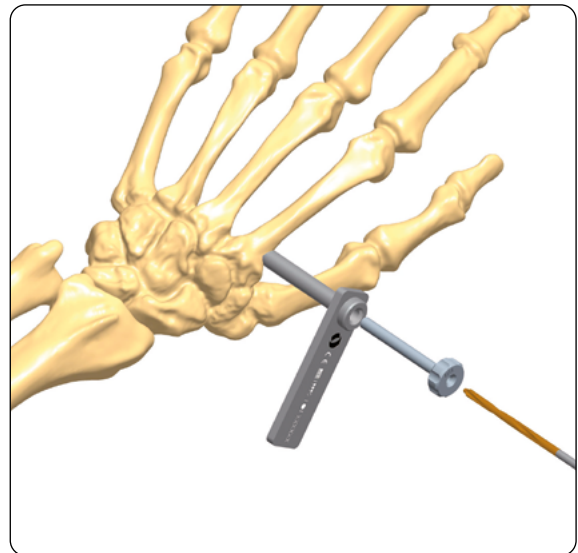

Fig. 3
- Remove the trocar, replace it with the drill guide and drill the bone over the drill guide with a 2.7mm drill bit (**Fig. 3**)